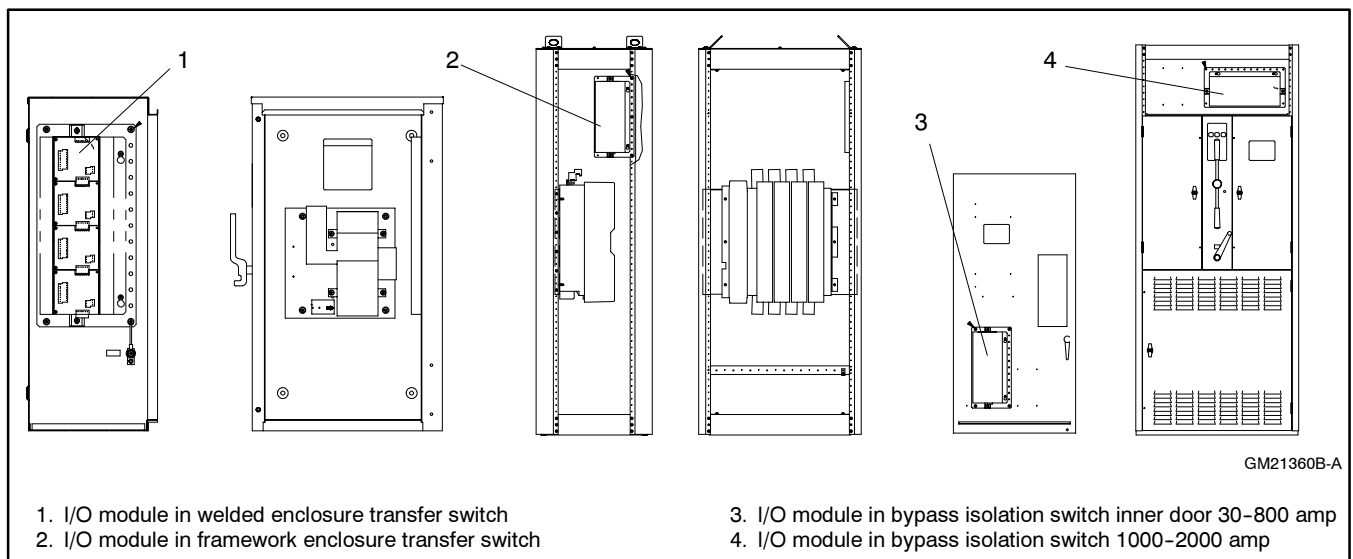

Figure 7 Accessory Mounting Pan Location and Position
- 3.1 See Figure 7 and determine the recommended mounting location. Location and position of the kit vary by transfer switch model.
- 3.2 Mount the accessory mounting pan (GM21330) to the transfer switch enclosure using four 1/4-20 nuts (X-6210-2). Position the accessory mounting pan as shown in Figure 7. Do not tighten nuts at this time.